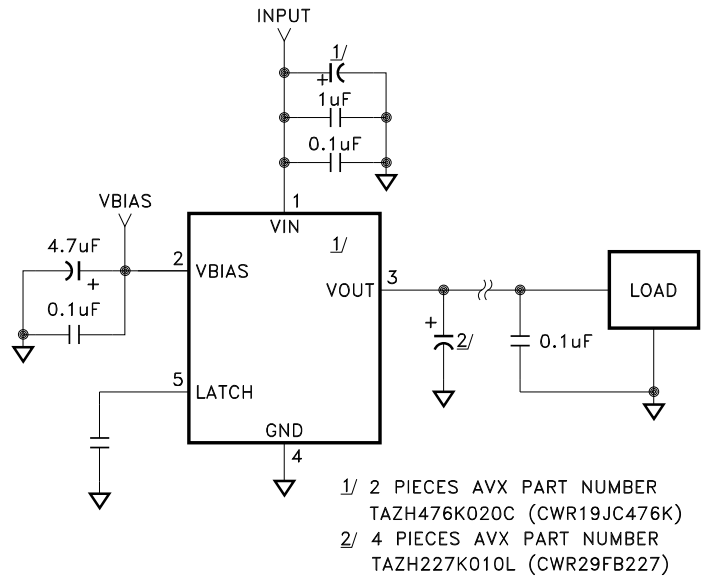

FIGURE 2
- ① Unless otherwise specified, V_{IN} = V_{OUT} + 1V, V_{BIAS} = 5V and I_{OUT} = 10mA. See figure 2 for typical test circuit.
- ② Guaranteed by design but not tested. Typical parameters are representative of actual device performance but are for reference only.
- ③ Industrial grade devices shall be tested to subgroups 1 and 4 unless otherwise requested.
- ④ Military grade devices ("H" and "K" suffix) shall be 100% tested to subgroups 1,2,3 and 4.
- ⑤ Subgroup 5 and 6 testing available upon request.
- ⑥ Subgroup 1,4 TC = +25°C